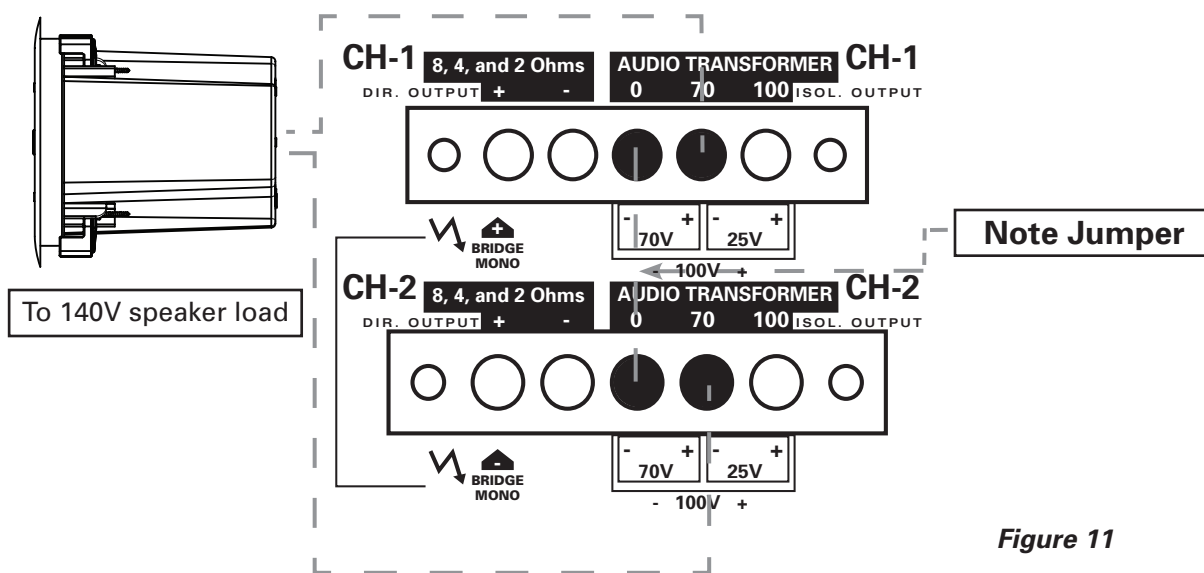

Figure 11
- **140V Operation** - Connect the positive lead of the speaker load to the channel 1 70V positive "+" terminal, the negative speaker lead connects to the channel 2 70V positive "+" terminal. Connect a suitable jumper wire between the two terminals labeled "0". Consult your local codes to determine if Class I wiring is required (Figure 11).